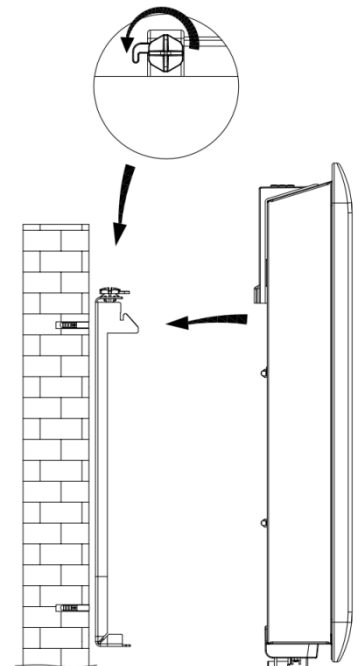

Fig. 4
5. Hang the heater on the bracket, and tighten the bracket's top plastic screw. Fig 4